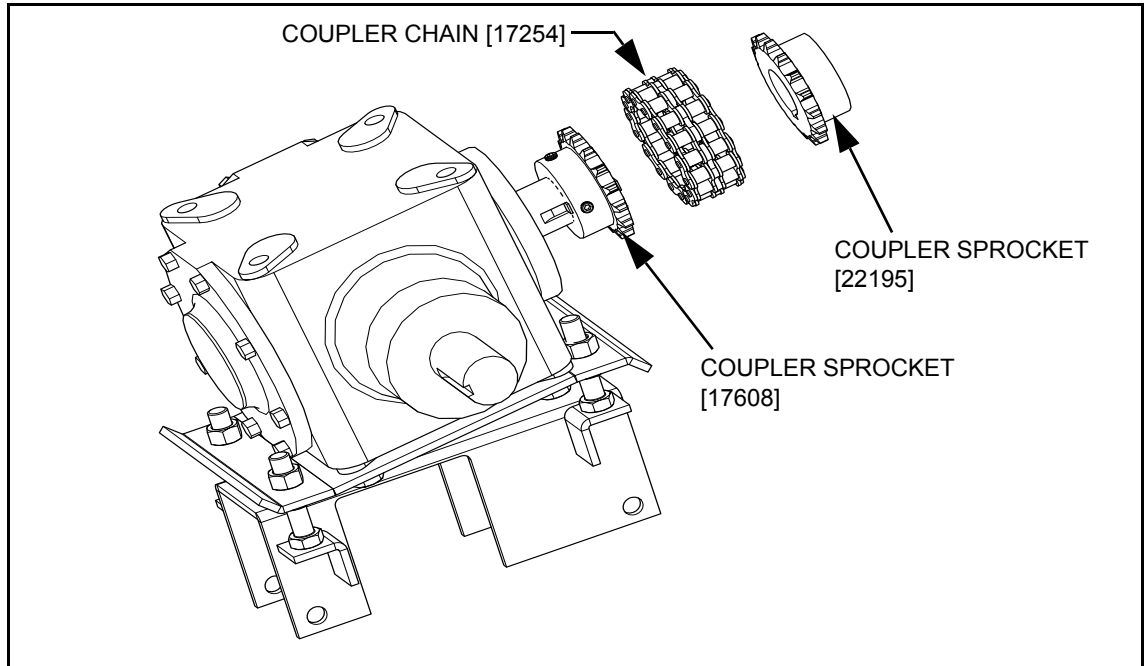

Figure 2 Removing Coupler Chain from Sprockets
1. Remove coupler chain from coupler sprockets (see Figure 2).